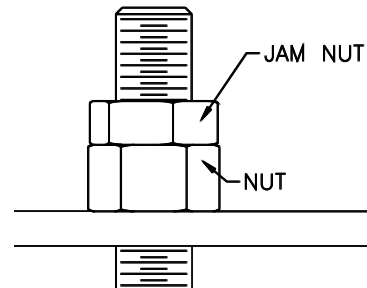

Fig. 10b – Jam Nut
- 26) Install the hex and jam nut as shown in **Fig. 10b**.